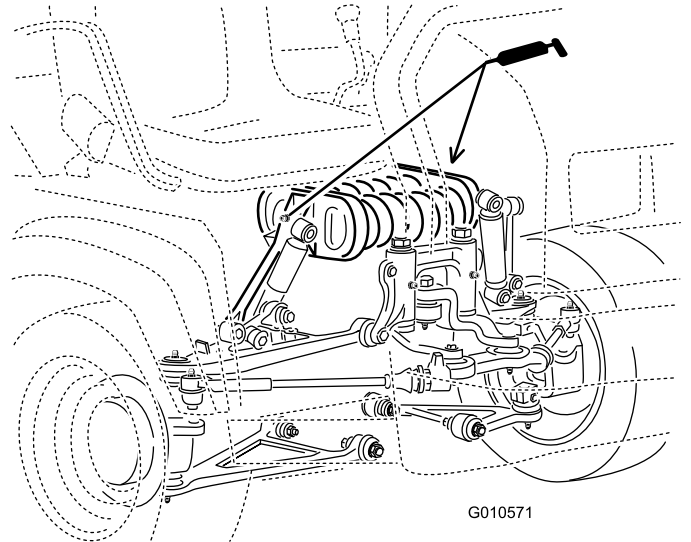

Figure 37
- **Spring tower (2);** refer to Figure 37